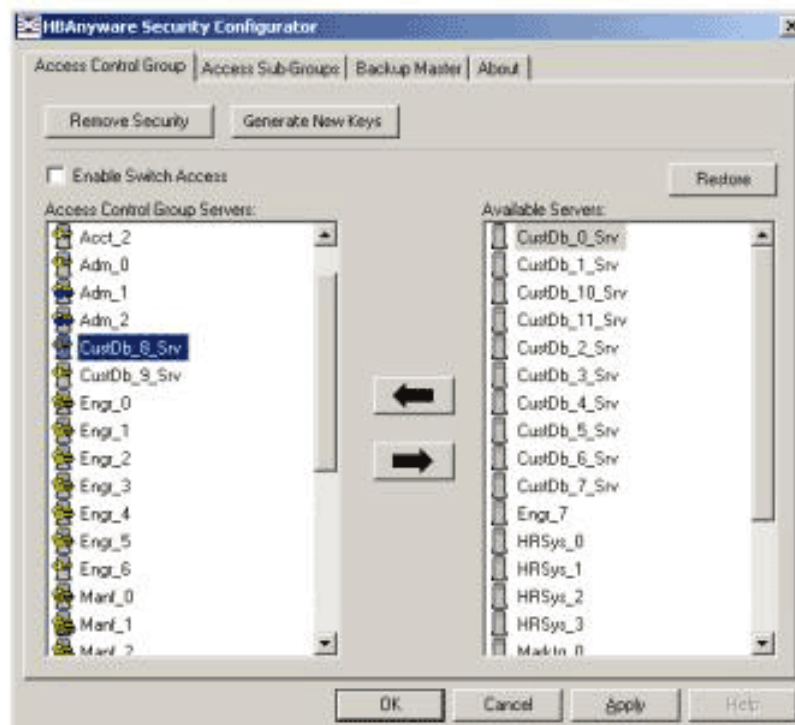

Figure 76: Access Control Group tab on an MSC System
1. On the Access Control Group tab, from the Available Servers list, select the unsecured servers to add to the ACG (Figure 76).
1. On the Access Control Group tab, from the Access Control Group Servers list, select the secured systems to delete from the ACG (Figure 76).
From the Access Control Group tab on the MSC, click **Restore** (Figure 76).
From the Access Control Group tab, check **Enable Switch Access**. (Figure 76).